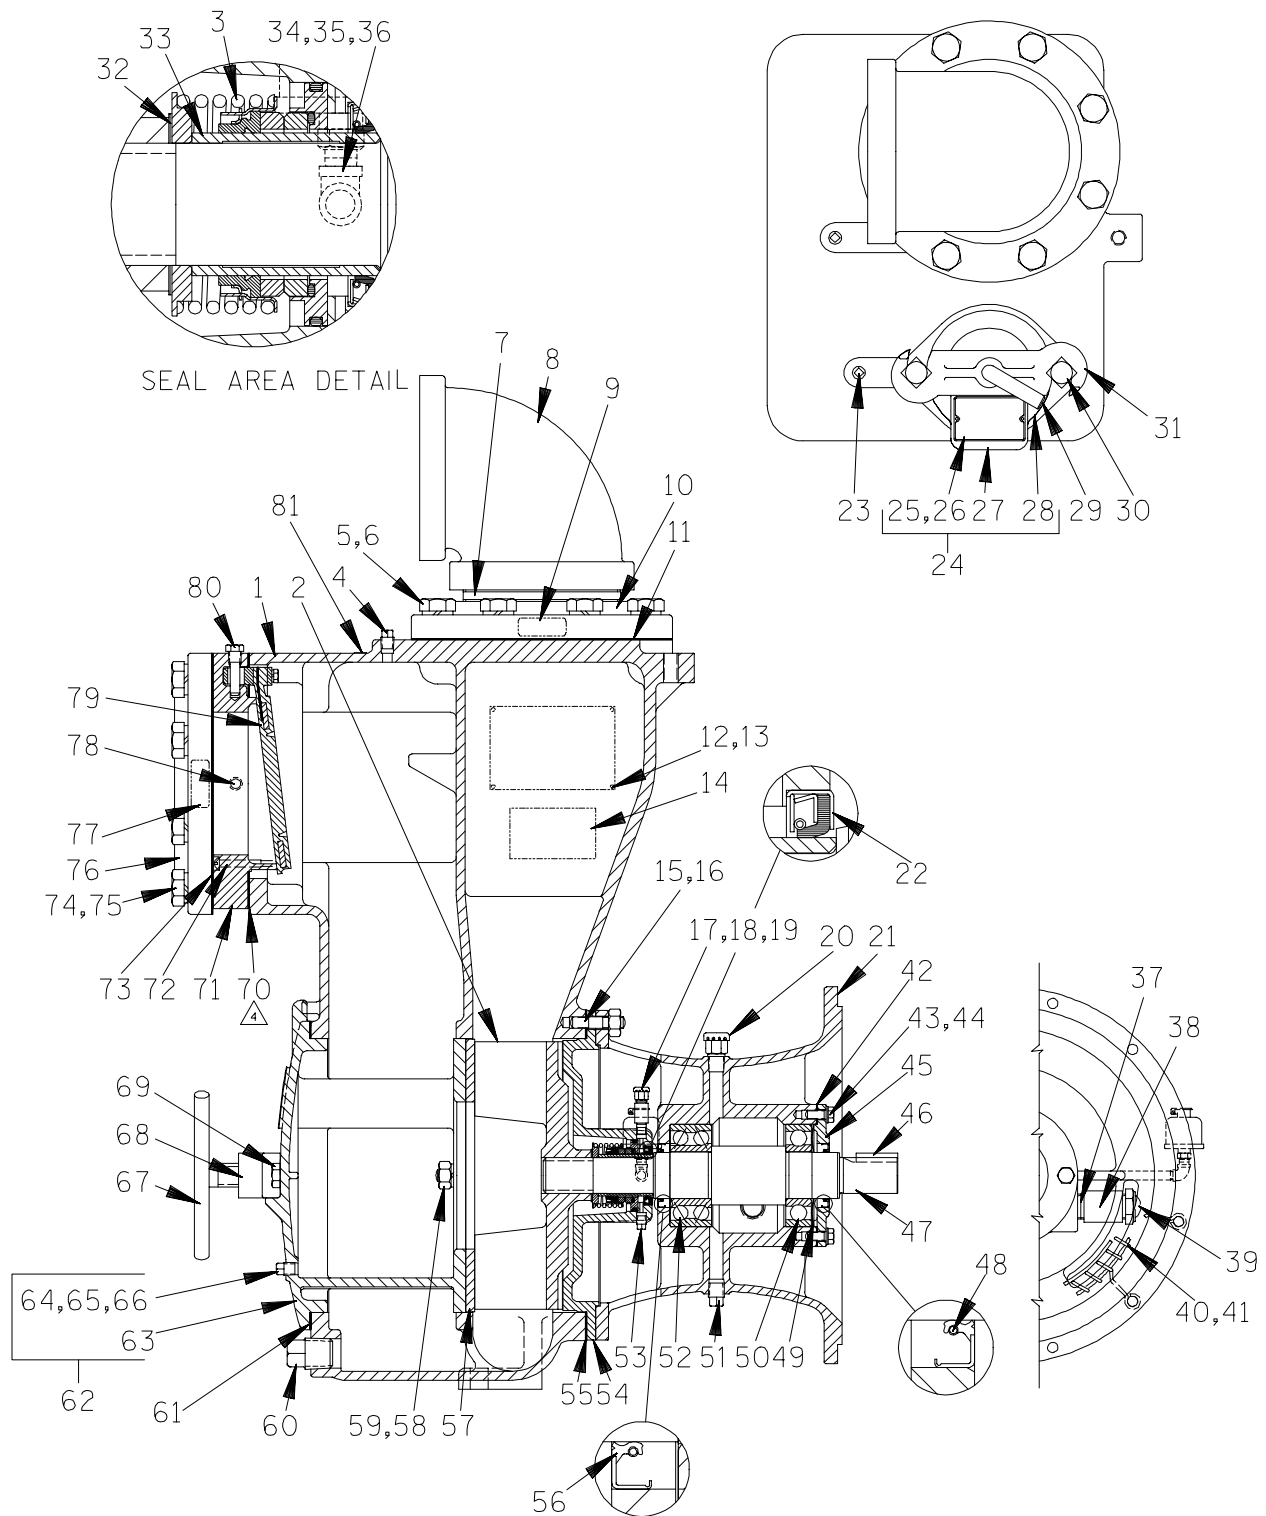

Figure 2. 16C20-(SAE 4/10) Pump End Assembly
(Figure 2)
As the assemblies separate, the flexible portion of the coupling assembly (3) will remain on the shaft. To remove the coupling from the shaft, unscrew the two allen head setscrews from the bushing (2). Screw one of the setscrews into the puller hole on the circumference of the bushing. As the coupling and bushing separate, remove the bushing, and slide the coupling off the shaft. Remove the shaft key (22, Figure 2).